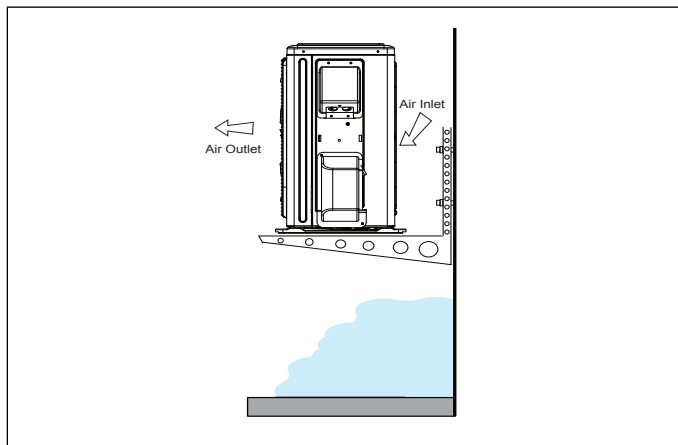

Figure 20. Outdoor Unit on Brackets above Snow Line
- The unit base should be elevated above the depth of average snows as illustrated in “Figure 20. Outdoor Unit on Brackets above Snow Line”